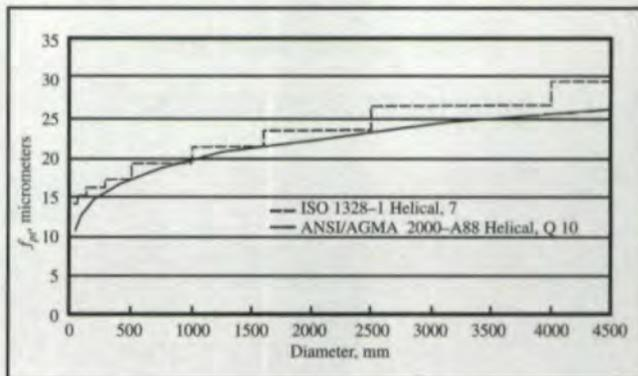

Fig. 1 - Tolerance comparison, single pitch variation, f_{pt} , AGMA Q 10 and ISO grade 7, module 8.
3. Tables vs. Formulas. AGMA 2000 A-88 uses formulas for the basis of tolerances. These tolerances are then based on a continuous curve. Tables of tolerances are included only as a convenience for the shop users. The tolerances in ISO 1328-1 are based on the tables, rather than a formula. Formulas are included, but are based on ranges of modules (m), diameters (d) and face width (b), as shown in the tables. When applying the formulas, the given parameters m , d and b are to be introduced as the geometric mean values of the relevant range limits and not the actual values. If, for example, the actual module is 7, the range limits are $m = 6$ and $m = 10$, and the allowable deviations are calculated with $m = (6 \cdot 10)^{0.5} = 7.746$. This causes an unusual looking graph of tolerances with steps in it. (See Fig. 1). This also causes some unusual circumstances, where a minute change in diameter or module can cause a big change in tolerance if the change moves the example gear into the next step.